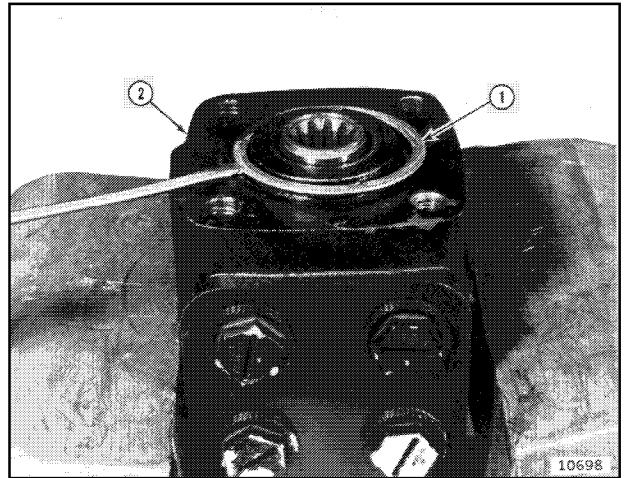

Figure 9
10. Remove retaining ring (1, Figure 9) from housing (2).